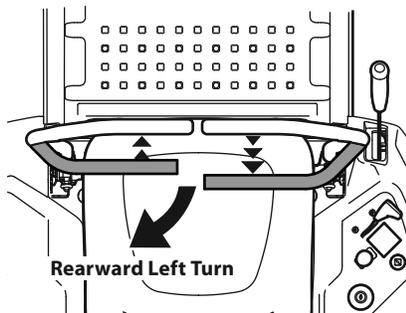

Figure 24
1. To turn to the left while traveling in reverse, move the left drive control lever forward of the right drive control lever. See Figure 24.